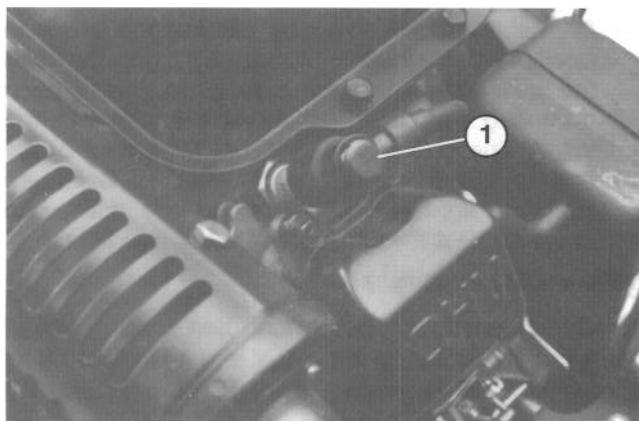

Figure 28
2. Clean around spark plug and remove plug from cylinder head (Fig. 28)